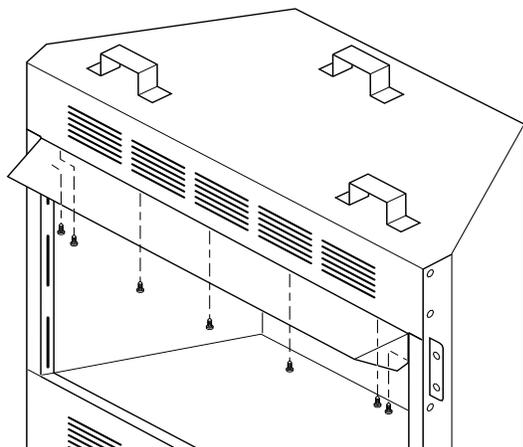

Figure 21 - Screw and Hood Placement for Hood
1. Attach hood to firebox using (7) #10 x 3/8" phillips screws provided (see Figure 21).